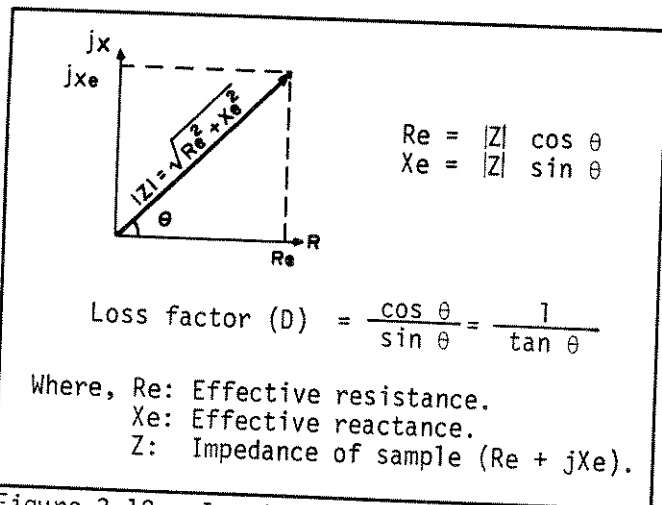

Figure 3-12. Impedance Vector Representation.
Impedance of a component can be expressed in vector representation by a complex number as shown in Figure 3-12. In such representation, the effective resistance and effective reactance correspond to the projections of the impedance vector $|Z| < \theta$, that is, the real (R) axis and the imaginary (jX) axis, respectively.